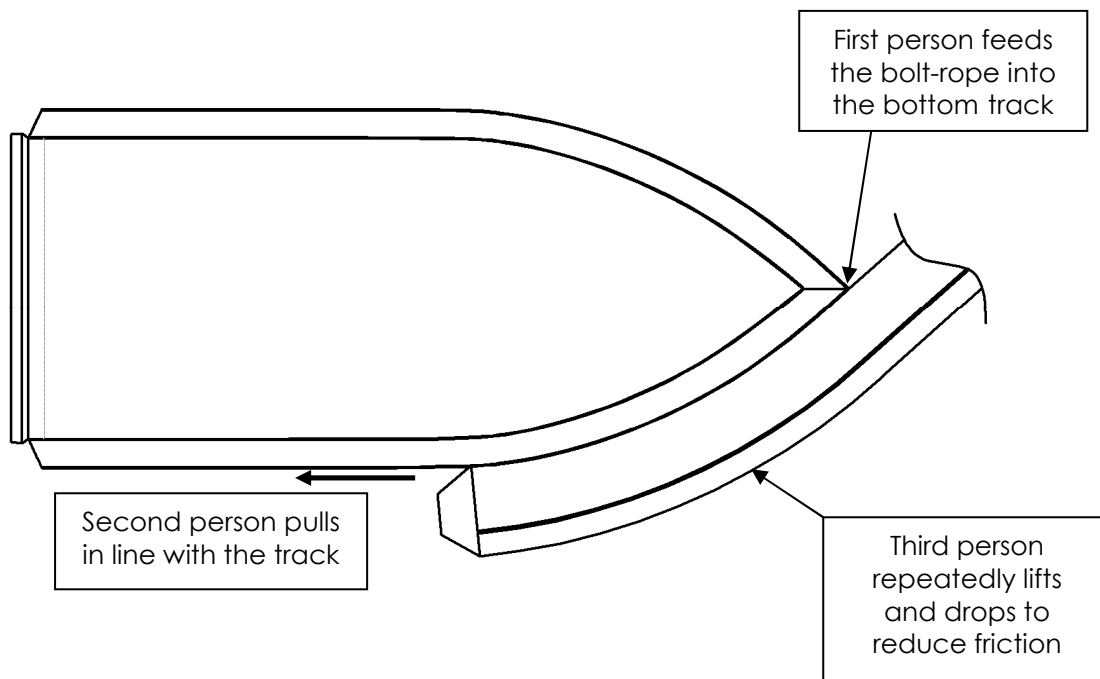

Figure 1.
*If it jams, try lifting the outers over the inwale (gunwale) to take the weight off the outers and therefore reduce friction. If they still jam, it may be helpful to get another person to hold the outers up at the curve in the track and alternately lift and drop the outers whilst the covers are being pulled from behind and fed from the front. See Figure 1. This will reveal the best angle at which to hold the outer cover.*